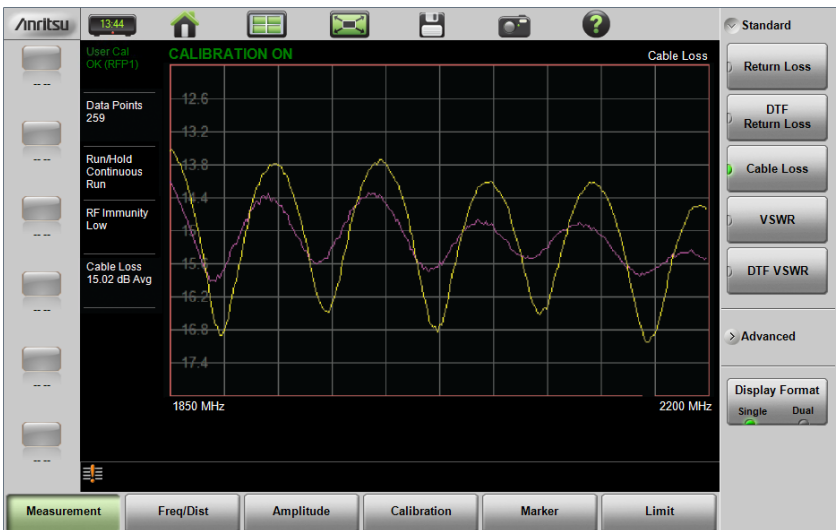

Figure 6-10. Recalled Measurement and Active Trace
6. Figure 6-10 illustrates a recalled measurement and active trace.
The recalled measurement is the purple trace and is overlaid on the current active (yellow) trace. In Figure 6-10, the recalled measurement is used to compare the cable loss of two different RF cables. Recalled measurements are automatically saved to trace memory for use in trace match functions. To see the recalled measurement and the current measurement simultaneously, select **Trace & Memory** in the Trace Display submenu. Refer to “Trace” on page 3-45.